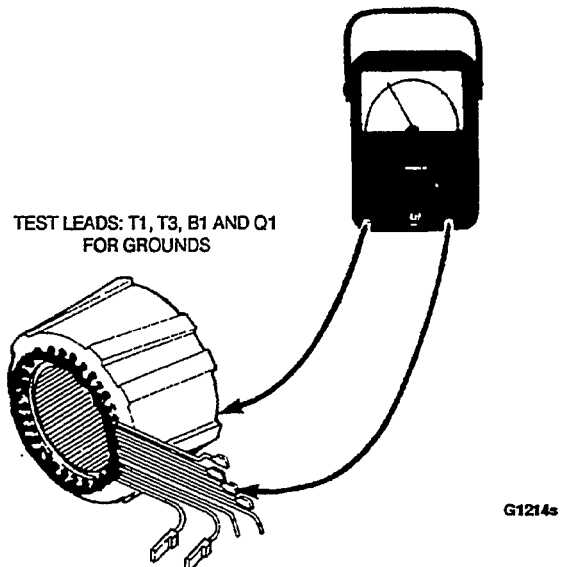

FIGURE 8-12. TESTING STATOR FOR GROUNDS
**Ground Test:** To test for grounds, set the ohmmeter to the highest resistance scale. Touch one test prod to the rotor shaft and hold it there. Touch the other test prod to one of the slip rings (Figure 8-12). A reading less than one megohm indicates that the rotor is grounded. Replace a grounded rotor with a new rotor.
Figures 8-12 and 8-13 show the stator and transformer removed from the generator for testing. However, both components may be tested without removing them from the generator. Remove the control panel to obtain access to the specified lead wires during testing.
Insulate or position the lead wire ends so they do not touch the set housing or other components within the control. Set the ohmmeter to its highest resistance scale, then connect one test prod to the generator housing. Touch the other test prod (see Figure 8-12) to the listed leads individually. A reading less than one megohm indicates a ground. Replace a grounded stator with a new stator.